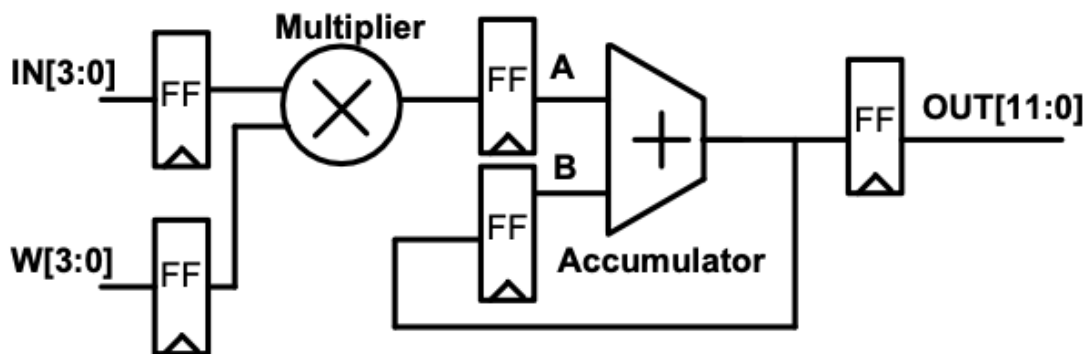

Figure 1: problem 1 pipelined structure
- The MAC has a pipelined structure as Figure 1 below (FSM or counter is not shown).